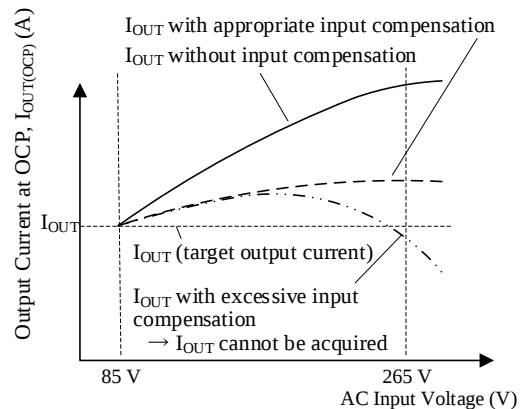
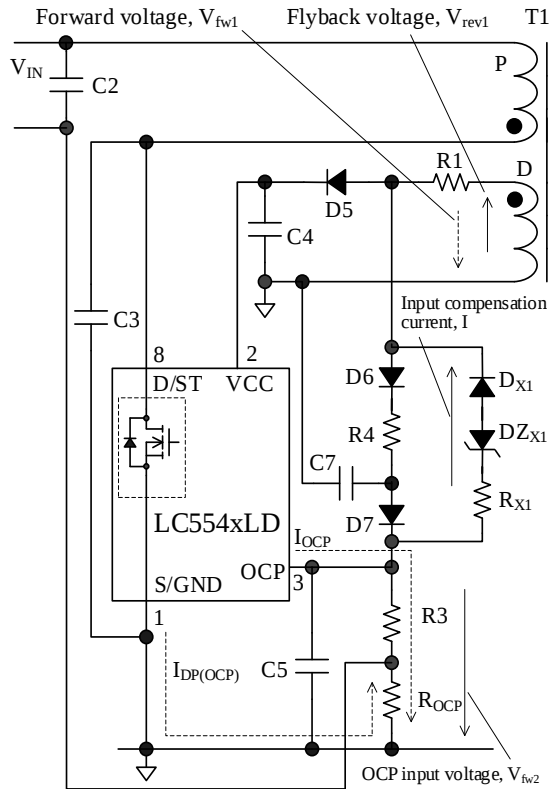
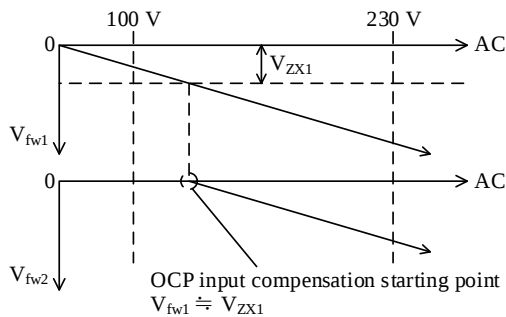

Figure 8-26. AC Input Voltage vs. Output Current at OCP (with or without OCP Input Compensation Function)
Figure 8-27. OCP Input Compensation Circuit
Figure 8-28. V_{fw1} and V_{fw2} vs. AC Input Voltages
Figure 8-26 shows the relationship between AC input voltage and the output current at OCP activation, $I_{OUT(OCP)}$, with the OCP input compensation function being activated or deactivated. When the IC without the input compensation, $I_{OUT(OCP)}$ increases as the AC input voltage increases (see “ I_{OUT} without input compensation” in Figure 8-26). To regulate $I_{OUT(OCP)}$ at the maximum AC input voltage, add the OCP input compensation circuit (D_{X1} , DZ_{X1} , R_{X1}) as shown in Figure 8-27. The values of these components should be adjusted so that $I_{OUT(OCP)}$ at the maximum AC input voltage exceeds the target output current, I_{OUT} (see “ I_{OUT} with appropriate input compensation” in Figure 8-26).
Figure 8-27 shows the OCP input compensation circuit, and Figure 8-28 shows the V_{fw1} and V_{fw2} voltages according to the AC input voltage. The compensation amount of V_{OCP} depends on values of the input compensation current, I , R_{X1} , $R3$, and R_{OCP} . The input compensation current, I , is calculated by the following equation:
For other component numbers, such as resistors, see Figure 8-27.
$I_{DP(OCP)}'$ in the maximum AC input voltage should be set to the peak drain current where the output current is equal to “ I_{OUT} with appropriate input compensation” in Figure 8-26.
- 4) In the maximum AC input voltage (265 VAC) condition, measure the drain current, $I_{DP(OC\text{P})}'$, when the output current, $I_{OUT(OC\text{P})}$, becomes the “ I_{OUT} with appropriate input compensation” in Figure 8-26.
- 6) Confirm that the output current during OCP operation, $I_{OUT(OC\text{P})}$, is similar to “ I_{OUT} with appropriate input compensation” in Figure 8-26, in an actual operation throughout AC input voltage ranges. If $I_{OUT(OC\text{P})}$ is not appropriate, be sure to adjust the constants of DZ_{X1} and R_{X1} by changing the compensation startup voltage, $V_{IN(OC\text{P_ST})}$.